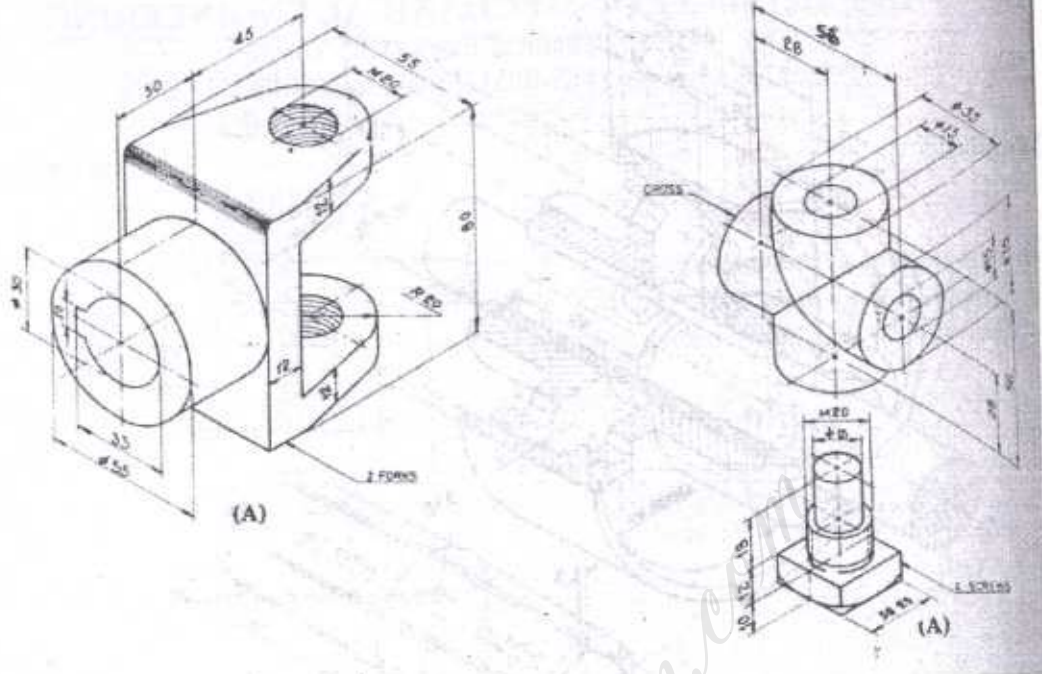

Figure 1
1. (a) Draw symbols giving illustrations for the following types of joints: (3)
- (b) Draw the free hand proportionate sketch of : (3)
2. Figure 1 shows the details of universal coupling. Assemble the given parts and draw the following views of the assembly. (20)